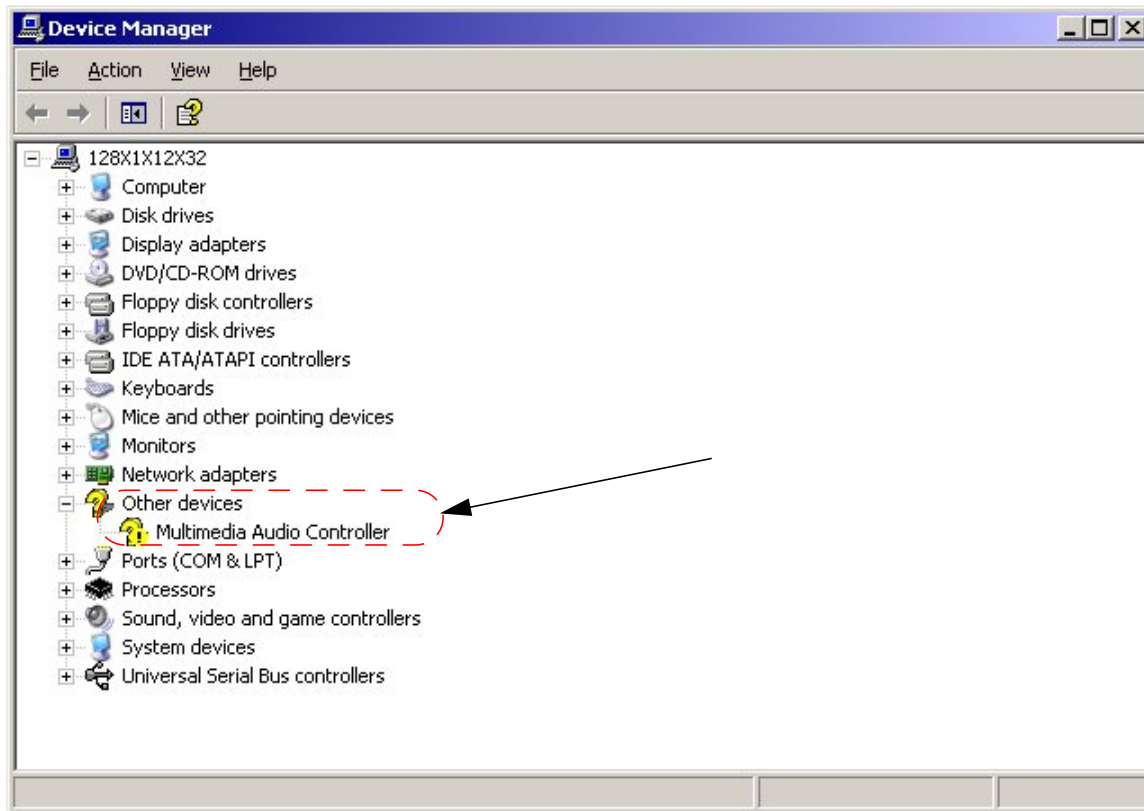

FIGURE 213. Device Manager window
5. The Device Manager window opens as in Figure 213.